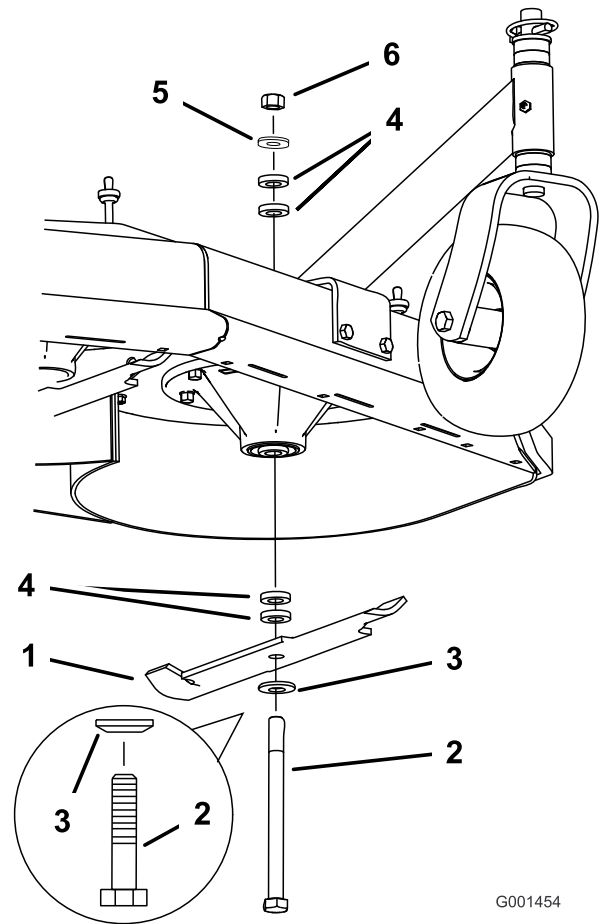

Figure 65
2. Remove the nut, blade bolt, curved washer, blade, spacers, and thin washer from the spindle (Figure 65).
1. Install the bolt, curved washer, and blade. Select the proper number of spacer(s) for the height-of-cut, and slide the bolt into the spindle (Figure 65).
2. Install the remaining spacer(s) and secure them with a thin washer and a nut (Figure 65).